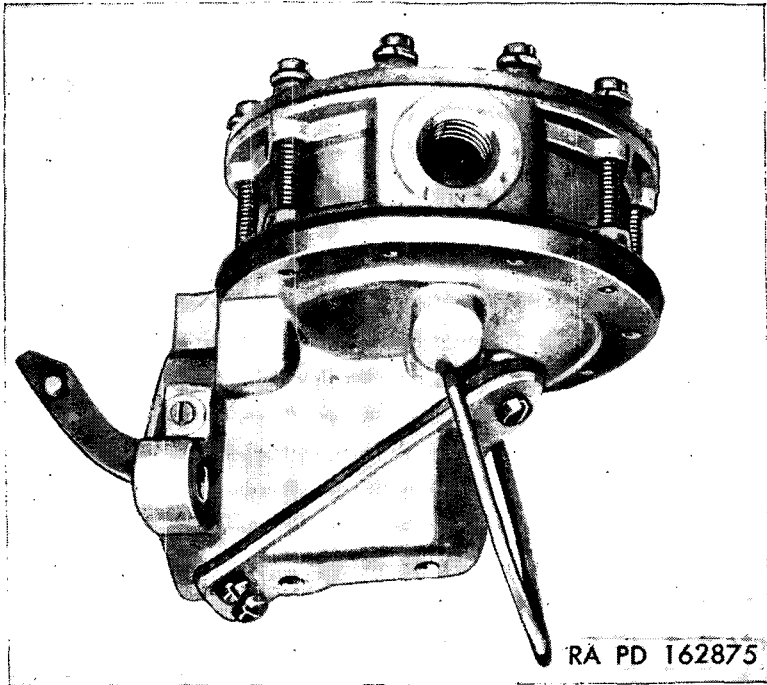

Figure 49. Fuel pump, series BH.
(1) Mark edges of cover and body of series BH fuel pump (fig. 49) with a file. The parts may then be assembled in the same relative positions.
- (2) Remove only the outer circle of screws and lock washers. Separate body from cover at diaphragm flange near body. If cover sticks, it can be jarred loose with a light plastic hammer.